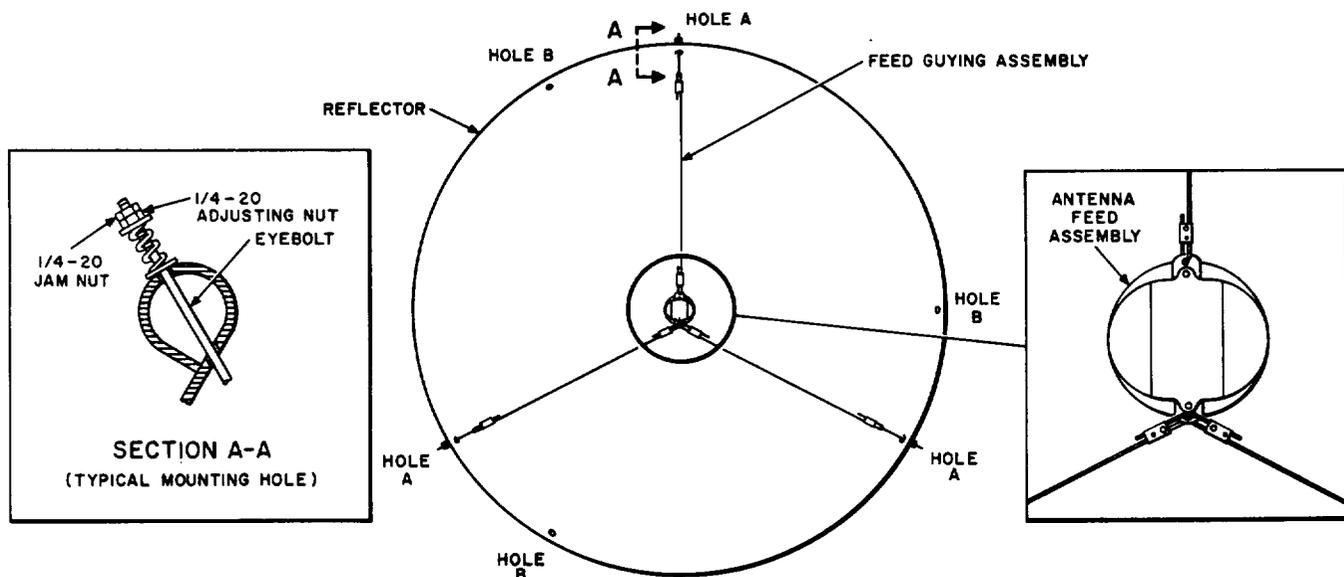

Fig. 10—Mounting Hole Configuration in Reflector Rim
4.11 Fig. 10 illustrates the mounting hole configurations in the reflector rim for attachment of the guying assembly eyebolts. The guying assemblies are spaced 120 degrees apart at the outer edge of the reflector rim. There are two sets of mounting holes in the rim. The set of holes designated A is used for a normal installation. When this set is used, the upper guying assembly attaches to the mounting hole in the uppermost portion of the reflector rim, based upon the antenna's normal mounting position.